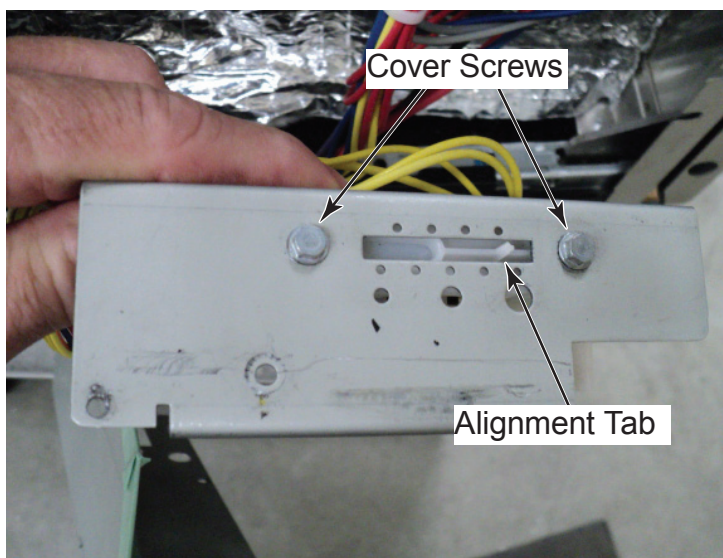

Figure 8
- e) Remove secondary interlock switch mounting bracket cover by removing two cover screws and lifting cover off of secondary - see figure 8.